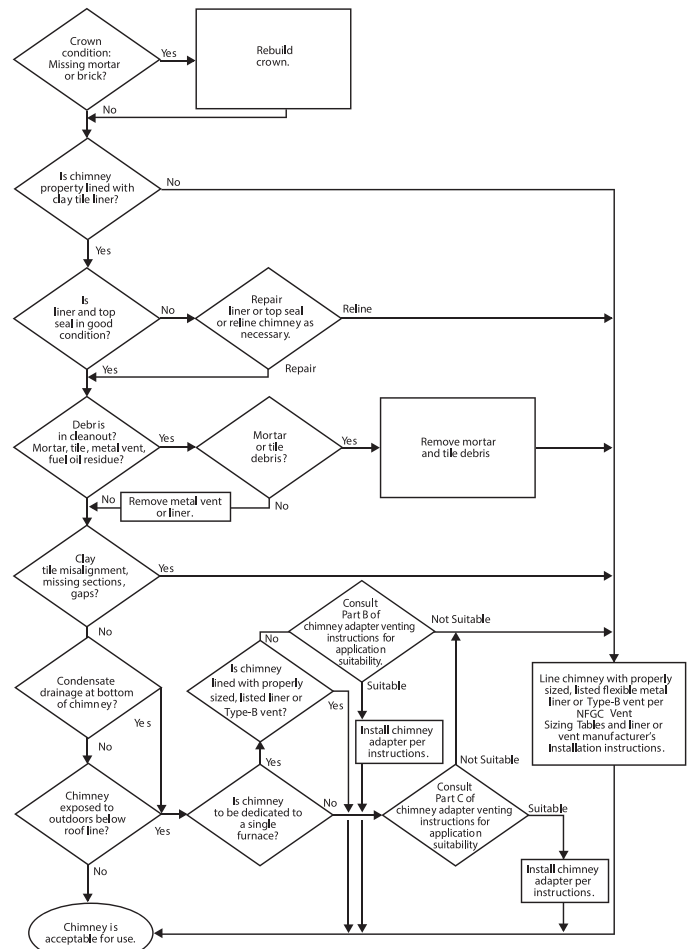

Fig. 31 – Chimney Inspection Chart
7. Do not vent this appliance into an unlined masonry chimney. (Refer to Chimney Inspection Chart, Fig. 31.
Inspections before the sale and at the time of installation will determine the acceptability of the chimney or the need for repair and/or (re)lining. Refer to Fig. 31 to perform a chimney inspection. If the inspection of a previously used tile-lined chimney: